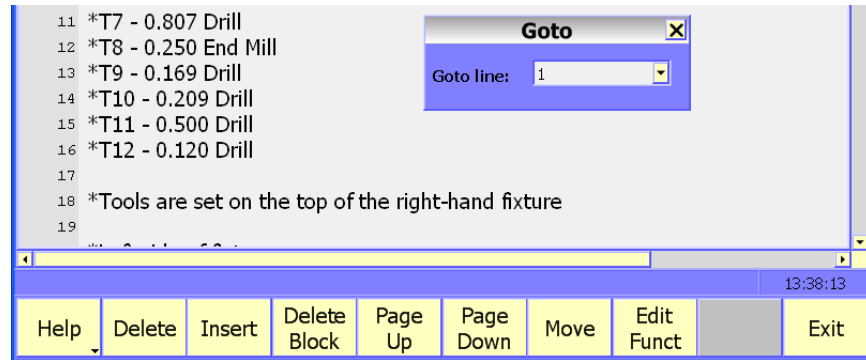

Figure 6-6, Goto Block Dialog Prompt
2. Highlight **Goto Block**. And press enter to display the Goto dialog prompt. Refer to Figure 6-6, Goto Block Dialog Prompt.